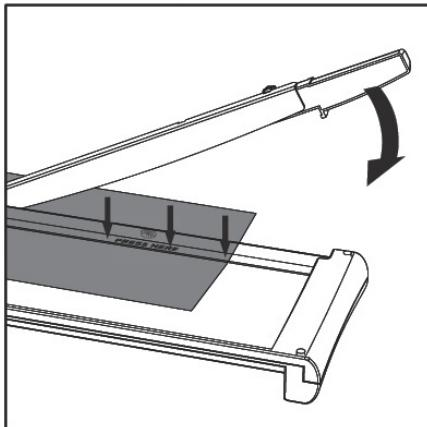

Figure 2
- Lift the handle of guillotine trimmer up. Place material to be trimmed at the selected position under safety guard and press the safety guard with one hand while cutting. Press down on sliding handle with the other hand to cut. (see Fig 2)